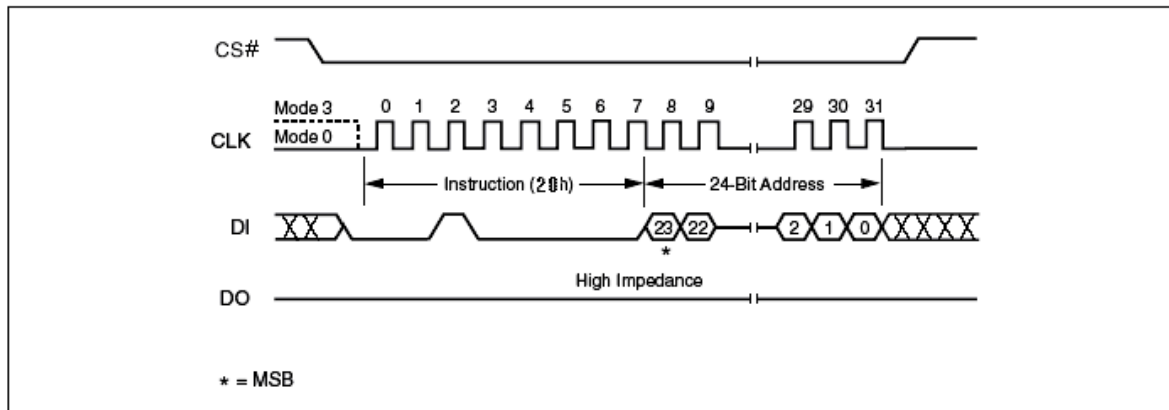

Figure 34. Sector Erase Instruction Sequence Diagram
The instruction sequence is shown in Figure 34. Chip Select (CS#) must be driven High after the eighth bit of the last address byte has been latched in, otherwise the Sector Erase (SE) instruction is not executed. As soon as Chip Select (CS#) is driven High, the self-timed Sector Erase cycle (whose duration is t_{SE}) is initiated. While the Sector Erase cycle is in progress, the Status Register may be read to check the value of the Write In Progress (WIP) bit. The Write In Progress (WIP) bit is 1 during the self-timed Sector Erase cycle, and is 0 when it is completed. At some unspecified time before the cycle is completed, the Write Enable Latch (WEL) bit is reset.